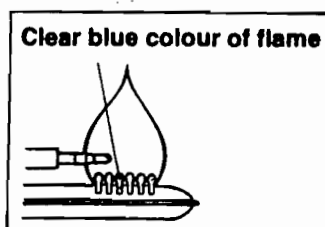

Fig. 2
The Thermocouple (Fig. 2)
3. Reassemble in reverse order. Check that feeler has been correctly refitted in relation to burner. See Fig. 2.
The color of the flame shall be clear blue over the slots of the burner (Fig. 2).